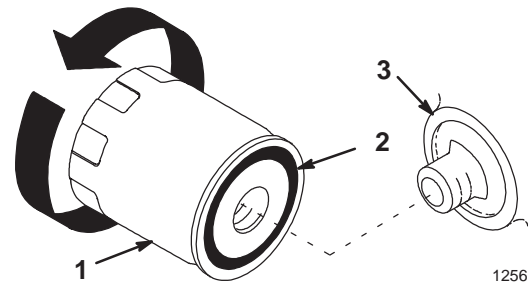

Figure 17
- Change the oil filter, if necessary (Fig. 17).
- Remove the old oil filter and wipe the filter adapter (Fig. 17) gasket surface.
- Apply a thin coat of new oil to the rubber gasket on the new oil filter (Fig. 17).
- Turn the oil filter clockwise until the rubber gasket contacts the filter adapter, then tighten the oil filter an additional 1/2 to 3/4 turn (Fig. 17).